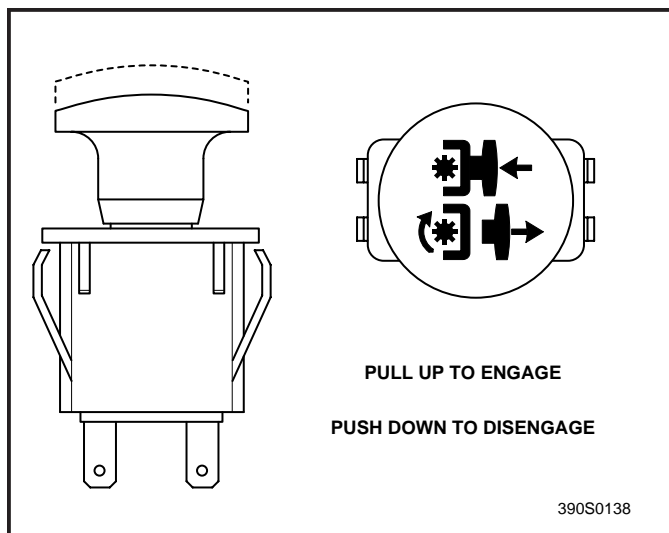

Figure 8
9. Pull the yellow engagement switch out to engage the cutter drive belts. (See Figure 8) Allow the belts to run for five minutes.